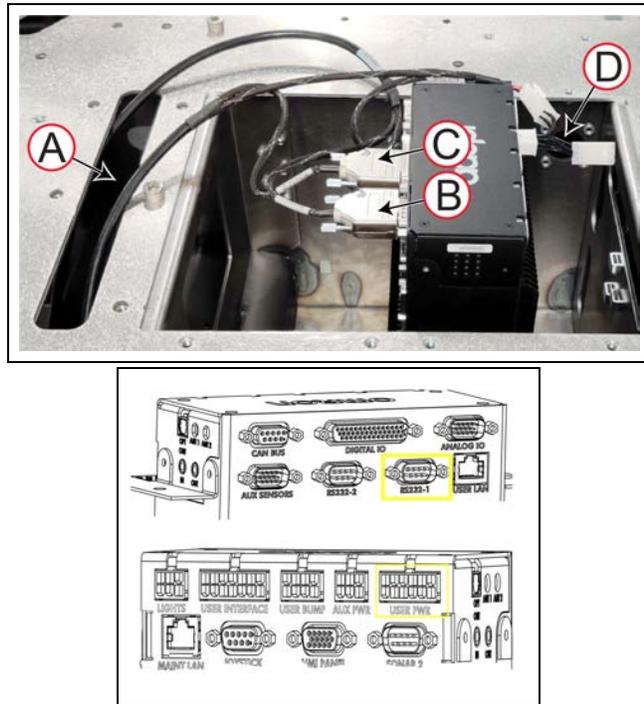

Figure 9-17 LD-250 Front HAPS Cable Routing Into the Payload Bay
5. Pass the connectors up through the oval slot in the payload bay [(A) in Figure 9-17].
6. Connect the front sensor's DB9 plug to port **RS-232-1** on the upper front of the LD-250 Core [(B) in Figure 9-17].
7. Connect the Molex Mini-fit plug power to the user power connector on the back side of the LD-250 Core [(D) in Figure 9-17].
10. (Dual Only) Pass the connectors up through the oval slot in the payload bay [(A) in Figure 9-17].
11. (Dual Only) Connect the rear sensor's DB9 plug to port **RS-232-2** on the upper front of the LD-250 Core [(C) in Figure 9-17].
12. (Dual Only) Connect the rear sensor Molex Mini-fit power plug to the other branch of the power splitter cable [(D) in Figure 9-17].